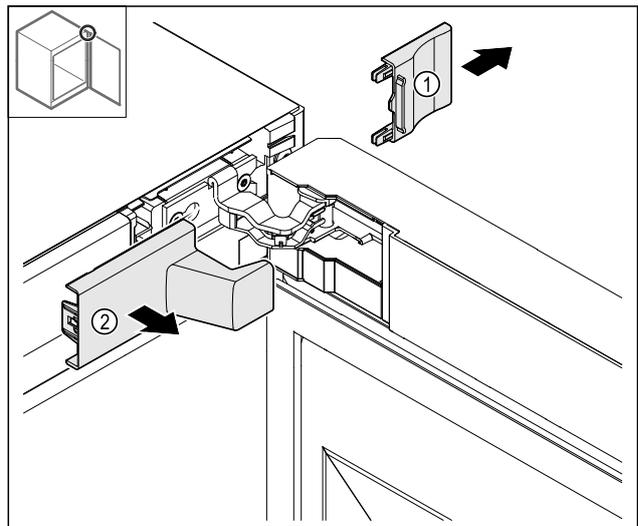

Fig. 8
- ▶ Remove the cover Fig. 8 (1) and then Fig. 8 (2).